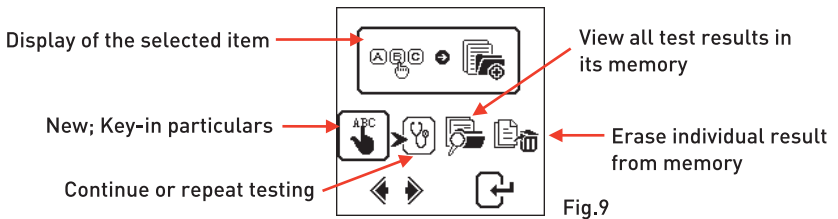

Fig.6
1. Clamp the analyser black clip to the battery negative terminal (-) and red clip to the battery positive terminal (+). The analyser LCD will light up (Fig.6).